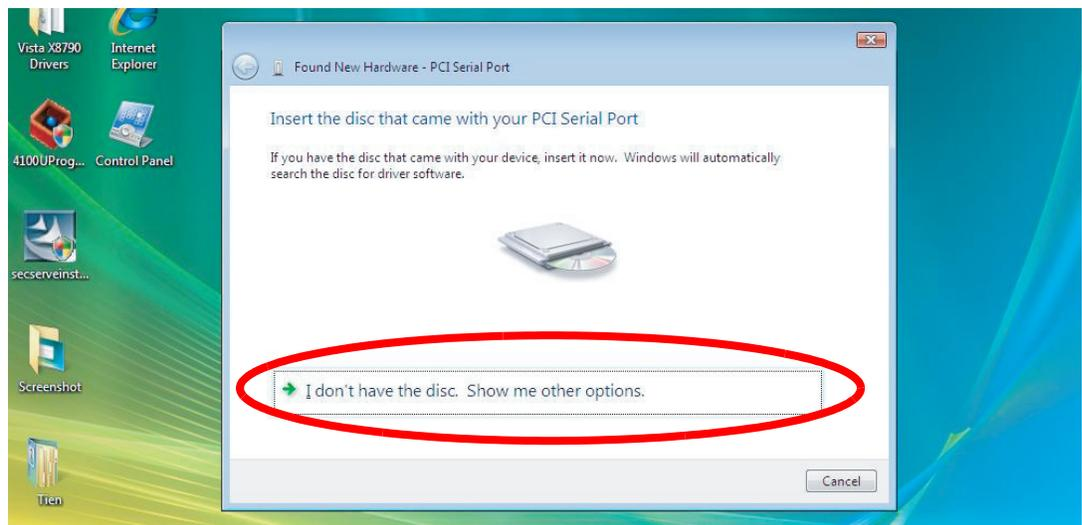

Figure 7-4 Driver Installation Screen
6. On the next screen, select the option **I don't have the disc. Show me other options**, as shown in Figure 7-4.